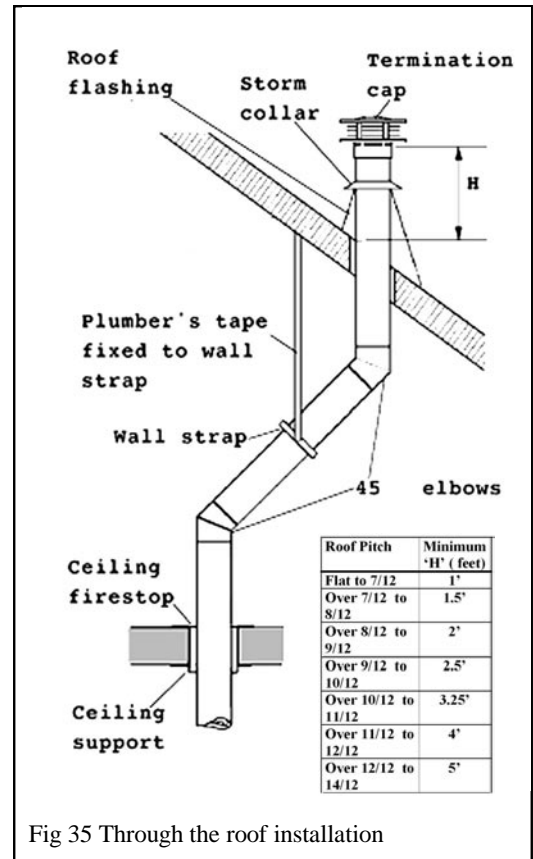

Fig 35 Through the roof installation
- The distance from the roof to the lowest terminal discharge opening (“H” in figure 35) depends on the roof pitch and must be in accordance with the Dura-vent instructions supplied with the termination unit.
If rafters or other obstructions will prevent a vertical exit or if clear attic space is desired, the roof outlet can be offset using 45° elbows - see fig. 35.
- Fit vent accessory elbows and pipe lengths as required up through ceiling support boxes and fire stops. If installation includes offset, support the offsetting pipes every 3 feet (1m) with wall straps (fig. 35).